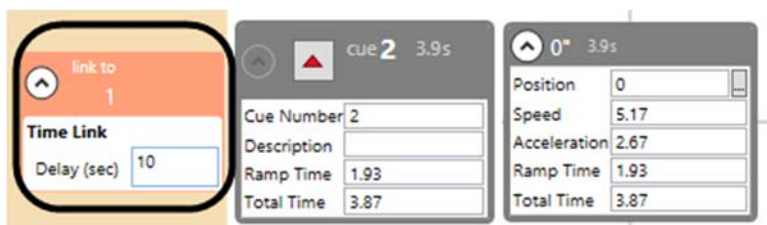

Figure 242
3. The new link is displayed in the left margin. You can edit the **Delay** value to be any number of seconds, including decimal values (Figure 242).